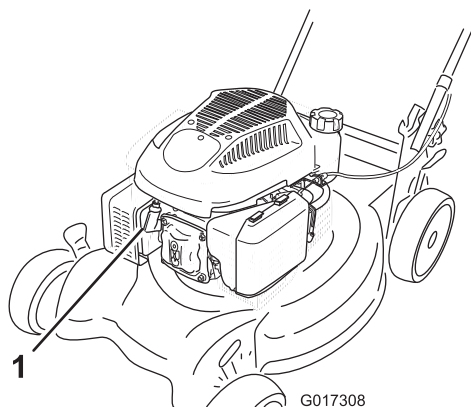

Figure 21
3. Disconnect the spark-plug wire from the spark plug (Figure 21) before performing any maintenance procedure.